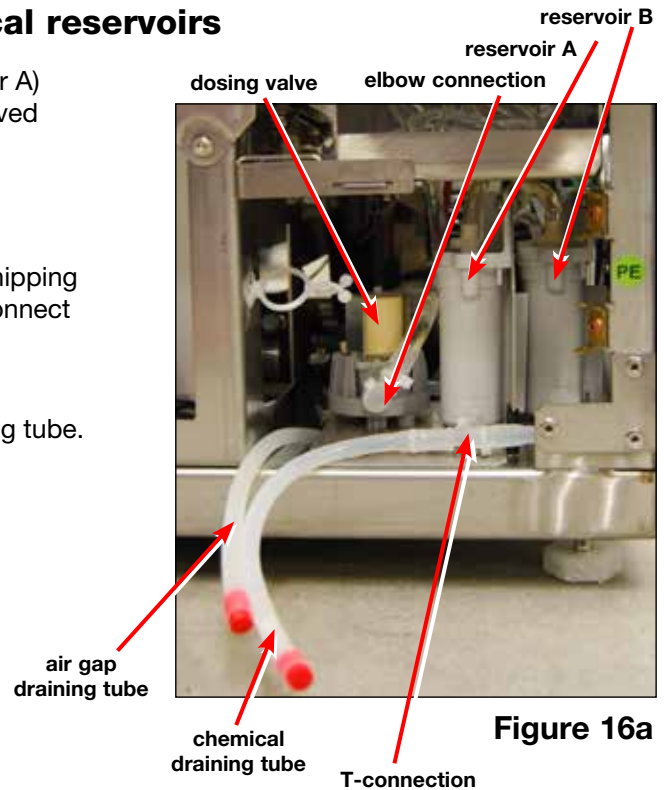

Figure 16a
3. Empty the reservoir using the dosing reservoir draining tube. (Figure 16a)
4. Disconnect T-connection tubing from reservoir A and the elbow connection from the chemical dosing valve. (Figure 16a)